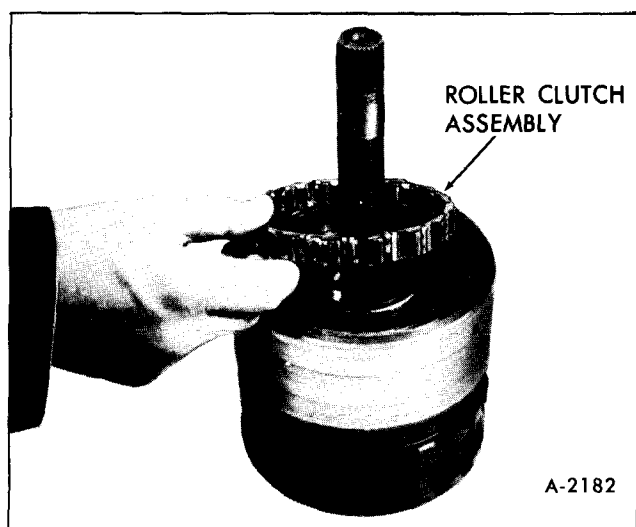

Figure 65-Roller Clutch Installation
18. Install roller clutch assembly in reaction carrier, Figure 65.